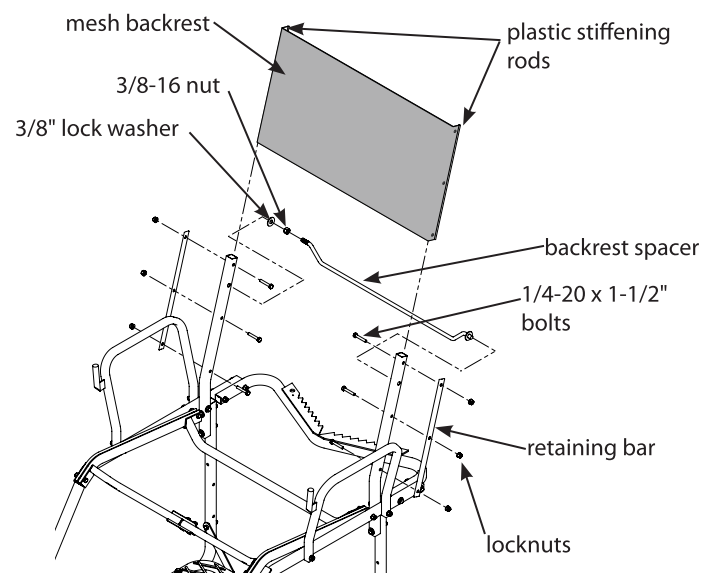

Figure 10
13. Attach the mesh backrest assembly (360021) and the (2) retaining bars (410081) to the backrest mounts using (6) provided 1/4-20 x 1-1/2" bolts and locknuts. **SEE FIGURE 10.** The mesh backrest must wrap around the front side of backrest mounts and the plastic stiffening rod located in the sewn sleeve on each side of the backrest **MUST** be positioned behind the backrest retainer bars to act as a stop and prevent the backrest from pulling out during use. All bolts **MUST** go through the backrest retainer bars, the holes provided in the backrest and the backrest mounts. **SEE FIGURE 10.** Temporary removal of the backrest mount tube from the rest of the assembled ladder top may be necessary to attach the mesh backrest. If this is needed, re-attach backrest mount tubes with mesh backrest to the ladder top assembly.
14. Thread the non-locking 3/8-16 nut onto the threaded end of spacer rod all the way to the bottom of threads and slide 3/8" lock washer on. Insert the threaded end of spacer rod through either backrest mount tube far enough to be able to insert the opposite end of spacer rod (end with welded-on washer) into opposite backrest mount tube. Thread 3/8-16 nut back against mount tube. Using a 9/16" wrench, tighten nut until mesh backrest becomes taut. **SEE FIGURE 10. You must now tighten all nut and bolt assemblies. Be sure not to over tighten or crush tubing when tightening!**